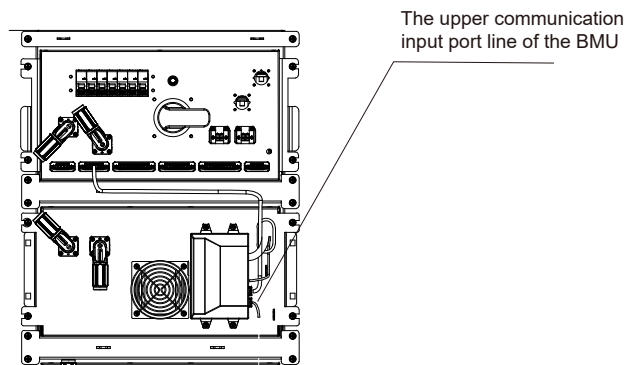

Figure 2.7
(4) the lower end of the BMU communication power supply cable is the output port line (link output port). (Figure 2.7).